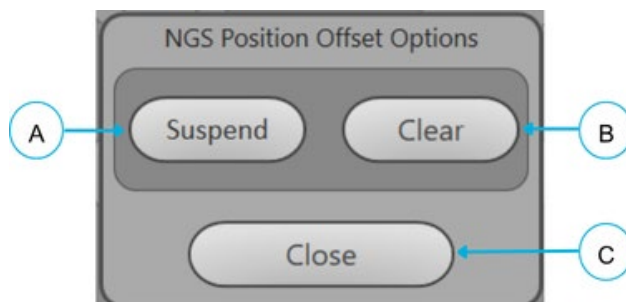

Figure 7-20: NGS Position Offsets Options Menu
The **NGS Position Offset Options** (**Figure 7-20**) popup menu allows the user to toggle between pre- and post-offset views of the Delivery Device avatar (see **Table 26**).
2. Select the **[...]** button on the NGS Position Offsets menu (see **Figure 7-20**).